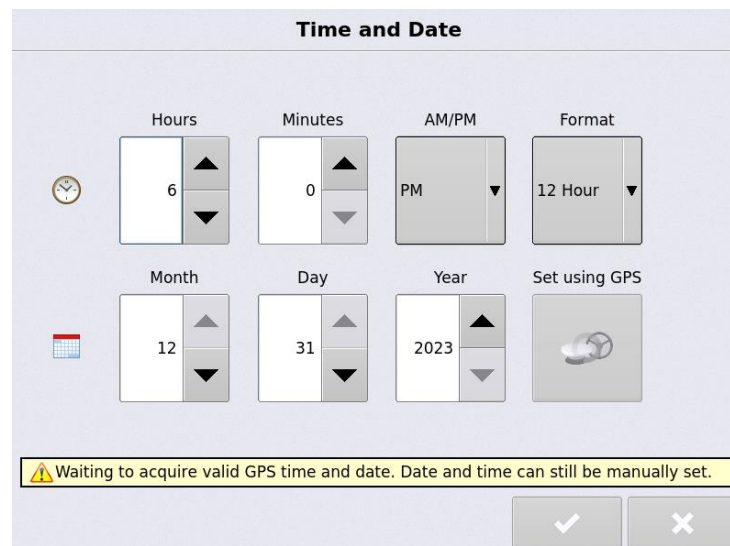

Figure 1 – Upon clock reset on startup automatically set date and time from ZDA
- **NEW:** Upon clock reset automatically set date & time when ZDA is present (Figure 1)
- **NEW:** Speed input settings available from the map screen (Figure 1)